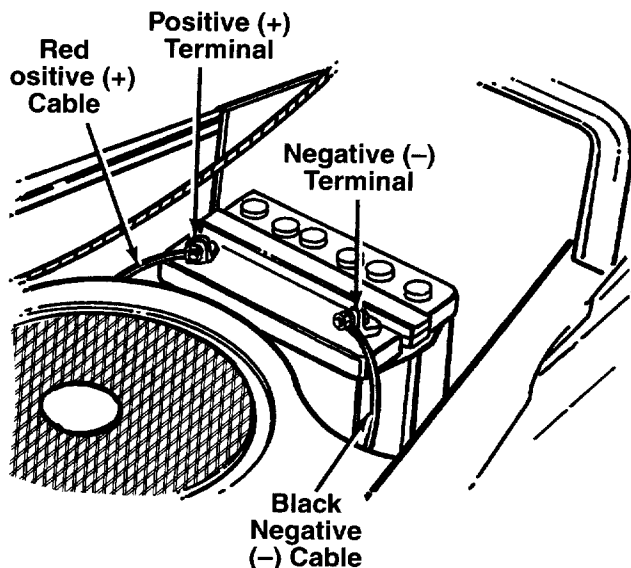

FIGURE 11.
- Attach the positive cable (heavy red wire) to the positive battery terminal (+) with hex bolt and hex nut. See figure 11. Slide the rubber boot down over the positive terminal.